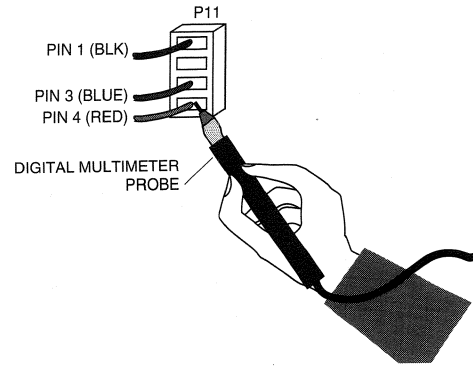

Figure 21.
2. Place the positive probe into the pin 1 location (Figure 21).
8. Place the positive probe into the Pin 4 location of P11 (Figure 21).